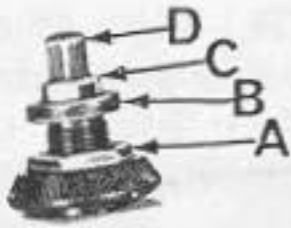

Fig. 2
Sufficient presser foot pressure to feed work uniformly should be maintained. Should it be necessary to increase or decrease amount of pressure on presser foot, loosen lock nut (A, Fig. 2) and turn adjusting screw (B). Adjusting screw has a right hand thread, so tightening increases pressure, loosening decreases pressure. When pressure adjusting screw (B) has been properly set, tighten lock nut (A). With presser foot resting on throat plate, position locking nut (C) so that its under surface is approximately $\frac{1}{32}$ inch to $\frac{1}{16}$ inch from the top surface of adjusting screw (B). Set cap (D) against locking nut (C).